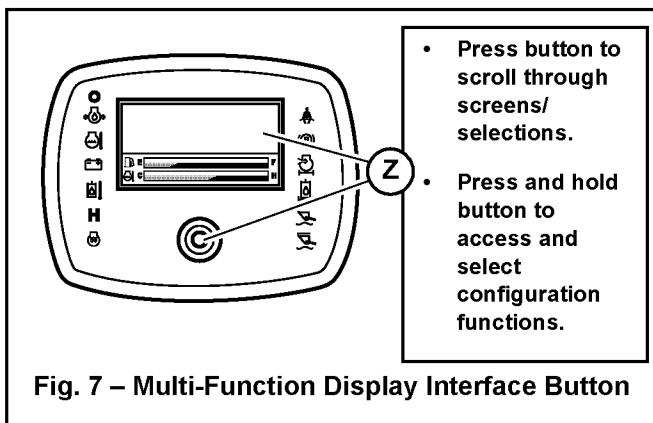

Fig. 7 – Multi-Function Display Interface Button
Press and release the multi-function display interface button (Z, Fig 7) to scroll through the status screens and any current error or maintenance required screens.
<p>Coolant Temperature Screen</p> <p>Default screen when no error codes are active.</p> <p>Press and release interface button (Z, Fig. 7) as many times as required to access this screen. Displays coolant temperature in "°F" or "°C", depending upon units selected in Temperature Units Configuration screen (M).</p>
<p>Engine RPMs Screen</p> <p>Press and release interface button (Z, Fig. 7) as many times as required to access this screen. Displays engine crankshaft revolutions per minute.</p>
<p>Battery Voltage Screen</p> <p>Press and release interface button (Z, Fig. 7) as many times as required to access this screen. Displays battery charge in volts.</p>
<p>Accumulated Service Hours Screen</p> <p>Press and release interface button (Z, Fig. 7) as many times as required to access this screen. Displays accumulated operation time in hours. Time accumulates when engine is running.</p>
<p>Maintenance Required Screen Displays in the screen rotation along with status screens when scheduled maintenance is required. See page "Maintenance Schedule" on page 110. To dismiss this screen, press and hold the interface button (Z, Fig. 7). This screen will display in rotation when scrolling through the status screens. After 1 full rotation of all screens, the display will freeze on this screen, until the machine is shut-down and started back up.</p>
<p>Configuration Selection Screens</p> <p>To access these screens, press and hold interface button (Z, Fig. 7) for 5 seconds.</p> <p>Press and release interface button (Z, Fig. 7) to move selection caret (A) down through the configuration selections. Press and hold interface button for 5 seconds to go to the configuration screen selected by selection caret (A).</p> <p>To exit the configuration selection screens, move selection caret (A) to the “EXIT” option and press and hold interface button for 5 seconds.</p>
<p>DPF Regeneration Configuration Selection Screen</p> <p>To access this screen, press and hold interface button (Z, Fig. 7) for 5 seconds.</p> <p>Press and release interface button (Z, Fig. 7) to move selection caret (A) down through the selections to the DPF regeneration configuration selection. Press and hold interface button for 5 seconds to go to the DPF regeneration configuration screen.</p> <p>To exit the configuration selection screen, move selection caret (A) to the “EXIT” option and press and hold interface button for 5 seconds.</p>
<p>Control Sensitivity Configuration Screen</p> <p>To change joystick control sensitivity, press and release interface button (Z, Fig. 7) to scroll through selections and change control sensitivity. With the caret closer to the  symbol, joystick control becomes increasingly aggressive and immediate; with the caret closer to the  symbol, joystick control becomes less aggressive and more relaxed.</p> <p>Control sensitivity configuration changes are saved when exiting this screen. To exit this screen, press and hold interface button for 5 seconds.</p>
<p>Travel Speed Limit Configuration Screen (Option)</p> <p>This screen displays only on machines equipped with the speed limit option. Press and release interface button (Z, Fig. 7) to choose between H-L (high/low) or speed limit travel drive modes. See “Travel Speed Range Selection” on page 58 for more information about the travel speed limit option.</p> <p>Vehicle speed limit configuration changes are saved when exiting this screen. To exit this screen, press and hold interface button for 5 seconds.</p>
<p>Control Joystick ISO/D-H Pattern Selection Screen (Option)</p> <p>This screen displays only on machines equipped with the D-H control pattern option. Press and release interface button (Z, Fig. 7) to choose between ISO or D-H joystick control options. See “Control Joysticks” on page 49 for more information about the ISO and D-H control options.</p> <p>Control joystick pattern configuration changes are saved when exiting this screen. To exit this screen, press and hold interface button for 5 seconds.</p>
<p>Coolant Temperature °F/°C Units Selection Screen</p> <p>Press and release interface button (Z, Fig. 7) to choose between coolant temperature display options (°F/°C).</p> <p>Coolant temperature units configuration changes are saved when exiting this screen. To exit this screen, press and hold interface button for 5 seconds.</p>
<p>Display Screen Contrast Configuration Screen</p> <p>Press and release interface button (Z, Fig. 7) to adjust the screen contrast.</p> <p>Screen contrast changes are saved when exiting this screen. To exit this screen, press and hold interface button for 5 seconds.</p>
<p>Display Screen Font Size Configuration Screen</p> <p>Press and release interface button (Z, Fig. 7) to adjust the font size.</p> <p>Font size changes are saved when exiting this screen. To exit this screen, press and hold interface button for 5 seconds.</p>
<p>Night/Day Display Change Configuration Screen</p> <p>To maximize display visibility, the display changes between a black-on-white display and a white-on-black display, depending upon the intensity of ambient light. The set point where this change occurs can be adjusted using this screen.</p> <p>Press and release interface button (Z, Fig. 7) to adjust the night/day display change set point. When the caret is closer to the ☀ symbol, the display changes in brighter ambient light; when it is closer to the 🌙 symbol, the display changes in lower ambient light.</p> <p>Night/day display configuration changes are saved when exiting this screen. To exit this screen, press and hold interface button for 5 seconds.</p>